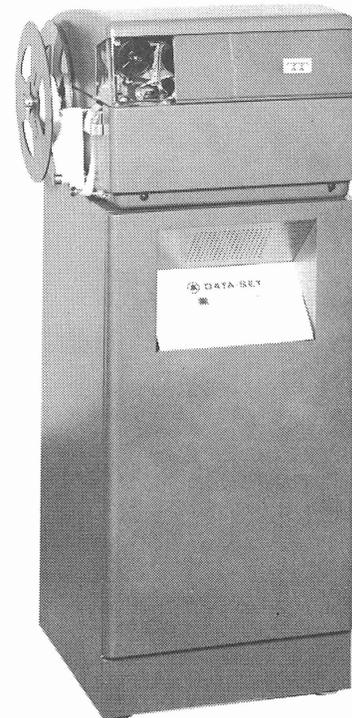

Figure 1 - 37 Receive-Only Typing Reperforator (ROTR) Set
1.01 This section provides installation instructions for the 37 Receive-Only Typing Reperforator (ROTR) Set (Figure 1). The text is illustrated with photographs and line drawings. For information pertaining to station installation, refer to the appropriate section.